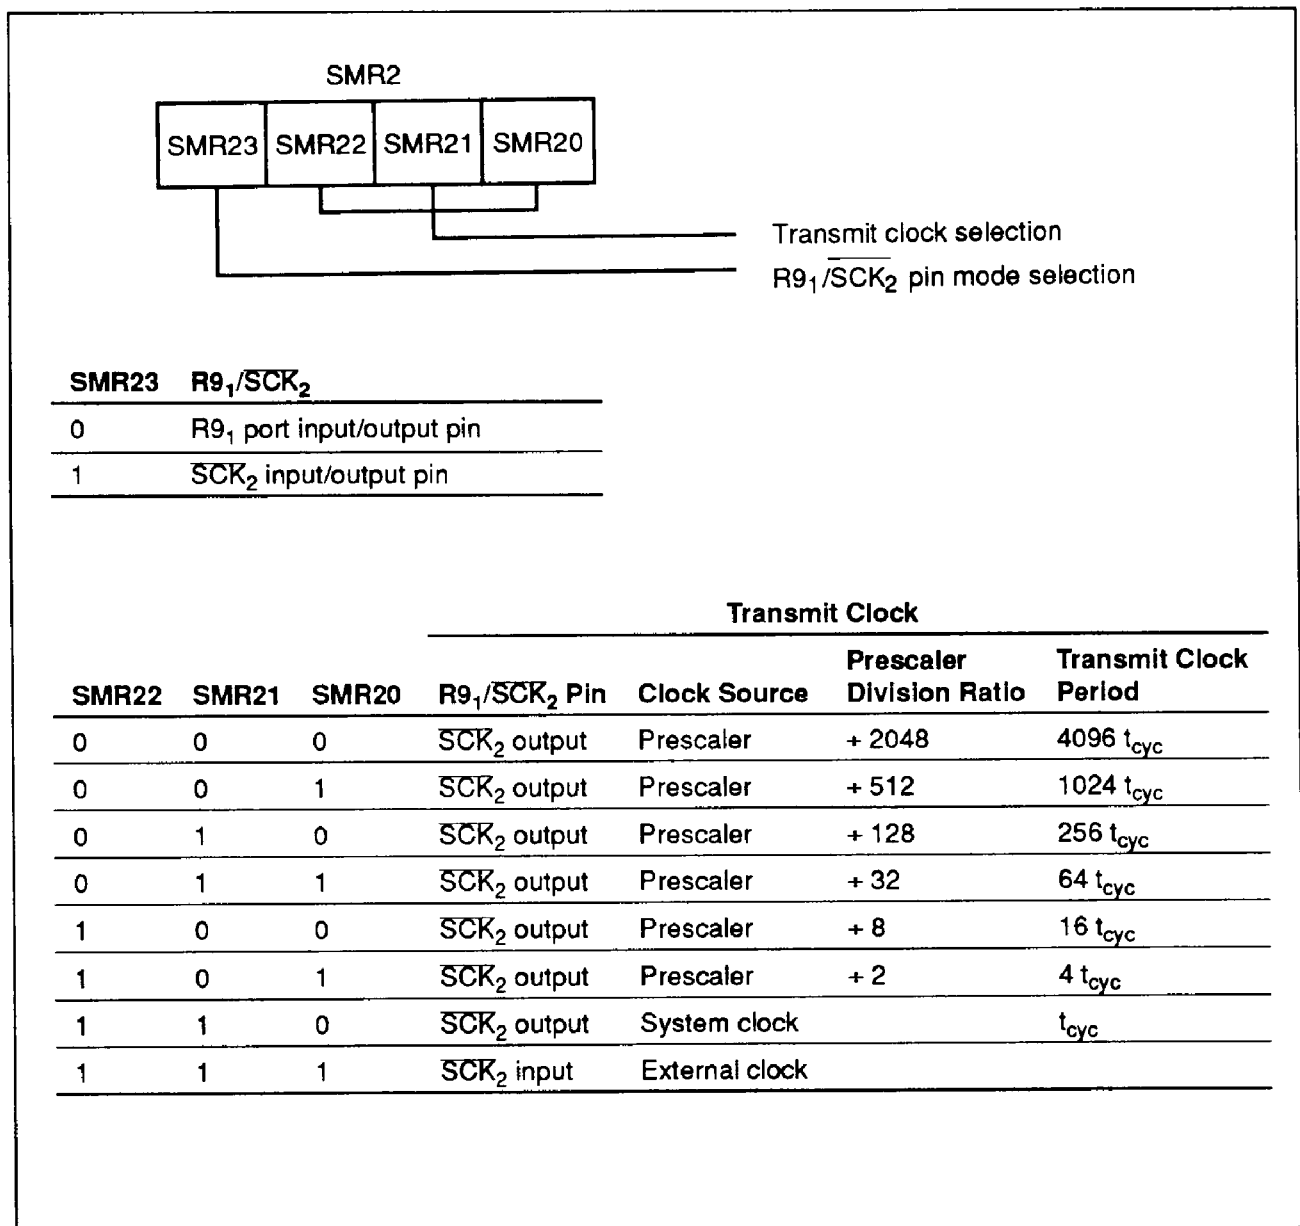

Figure 46 Serial Mode Register 2
**Serial Mode Register 2 (SMR2: \$014):** Four-bit write-only register which controls the R91/SCK2 pin, transmit clock, and prescaler division ratio as shown in figure 46. Writing to SMR2 initializes serial interface 2.